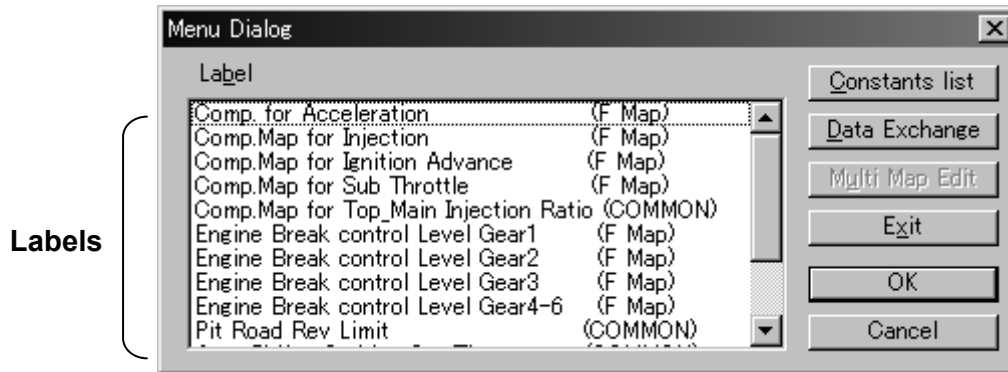

Fig. 93 Menu Dialog
- (5) The Menu Dialog shown in Fig.93 appears. (As for the models other than '11 ZX-10R, select the data file (EST file) to be edited in the Open File dialog and click the **Open** to display this screen.)